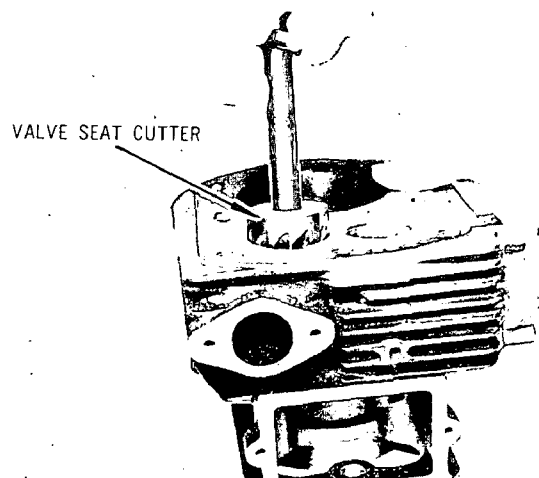

Fig. 6-4-9
- 2) Correct valve seat with 45° seat cutter tool, as illustrated in Fig. 6-4-9.